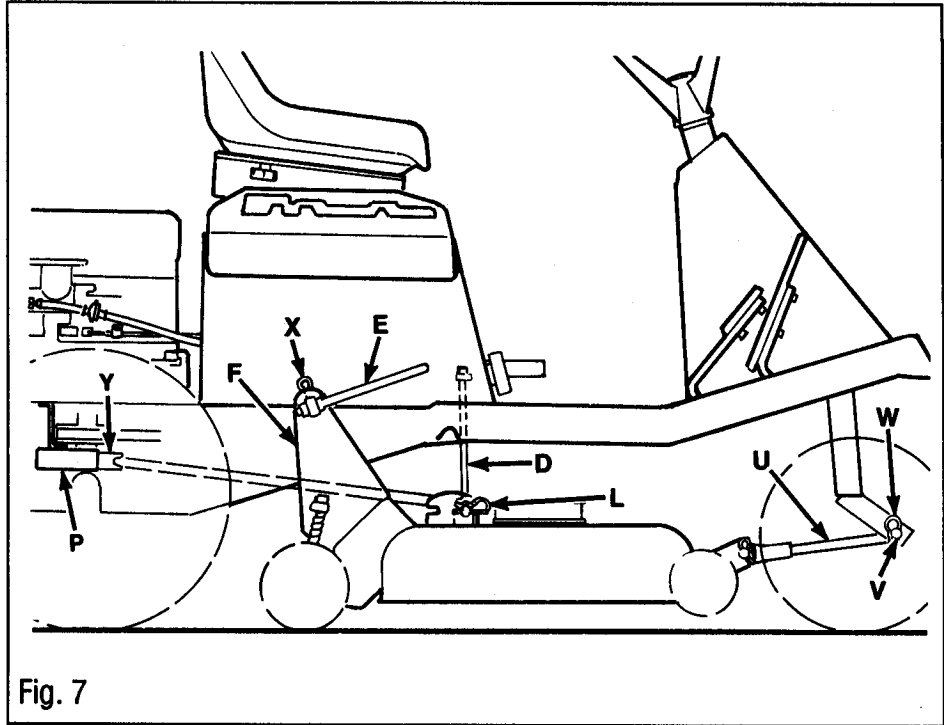

Fig. 7
2. Connect lift rods (D, Fig. 7) to mower decks and secure with spring pins (L).
3. Connect pivot rods (E, Fig. 7) to lift plates (F) on mower deck. Secure with spring pins (X).
5. Remove belt guide (P, Fig. 7).
6. Route mower drive belt over sheave (Y). It may be necessary to rotate differential to assemble belt.
7. Re-install belt guide (P) as far to the front as possible. Re-tighten belt guide. Check clearance between guide (P) and bolt head on differential. A 1/8" minimum gap should exist.